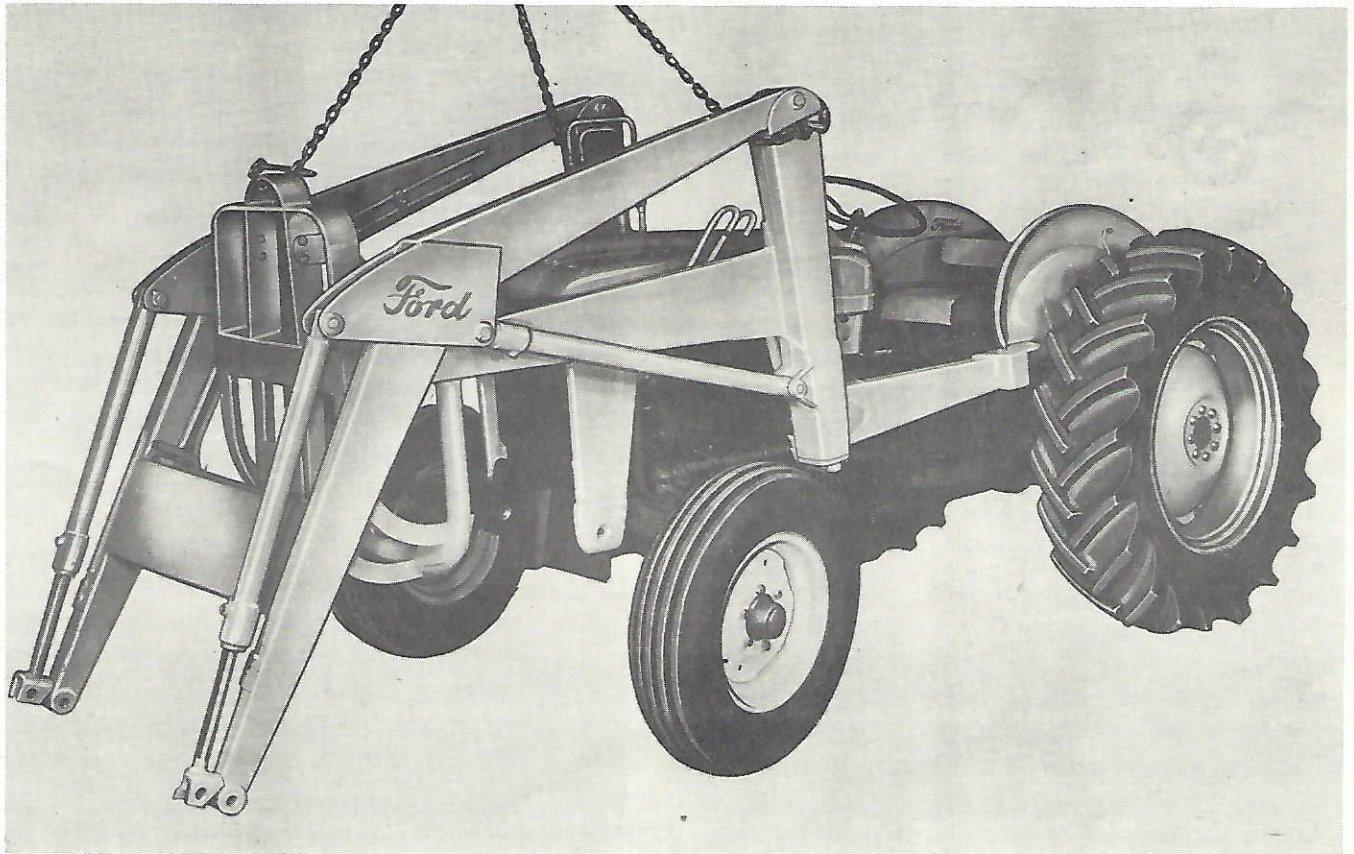

Figure 11
1. Install lift chains on the loader as shown in Figure 11.